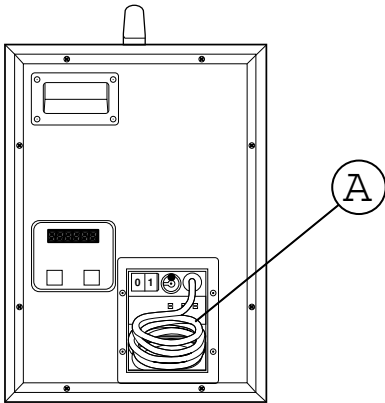

Figure 3.1 Cable compartment (A)
- Store the power cable in the cable storage compartment during transport, see *Figure 3.1*.